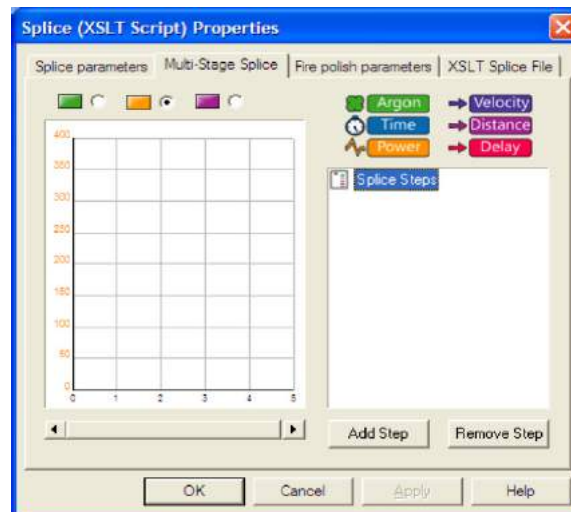

Figure 30 **Multi-Stage Splice Tab**
- After setting the “Pre Splice” parameters then open the Multi Stage properties page by clicking on the Multi Stage Splice tab. The Multi-Stage Splice tab is pictured in Figure 30.
- All parameters are edited in the same manner: click once, wait a second, click again to highlight for editing as shown in Figure 30 and Figure 31.